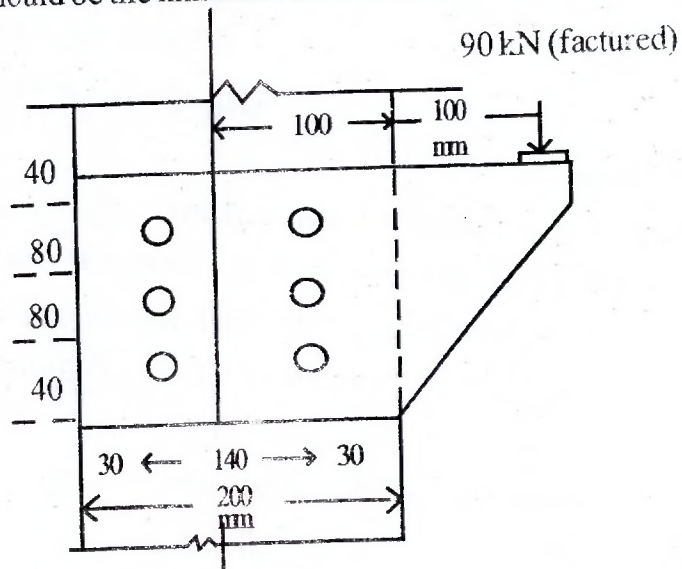

Fig 2
- (b) Consider a plate bracket 10 mm thick connected to the flange of a column ISHB 200 @ 37.3 kg/m by 6 bolts of grade 4.6 as shown in Fig.2. What should be the minimum size of bolts so that the connection is safe. 10